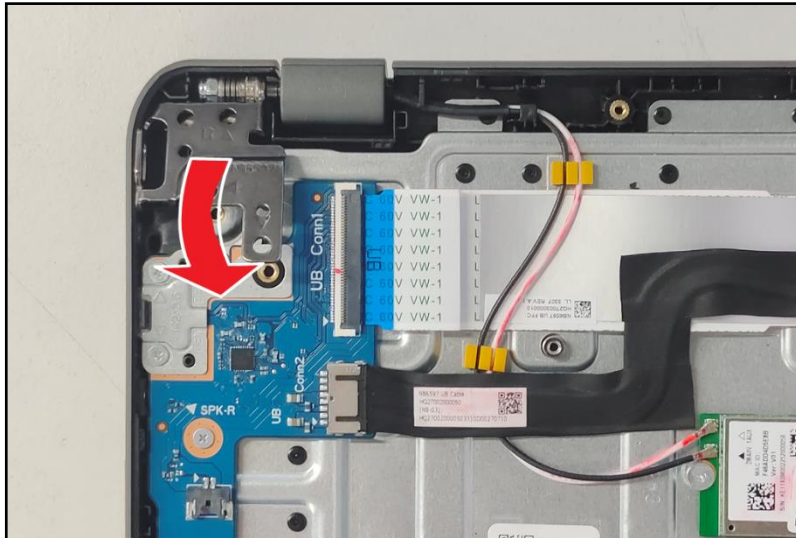

Figure 3-100. Replacing the USB Board
7. Close the right LCD hinge until it is fully seated in place (Figure 3-100).